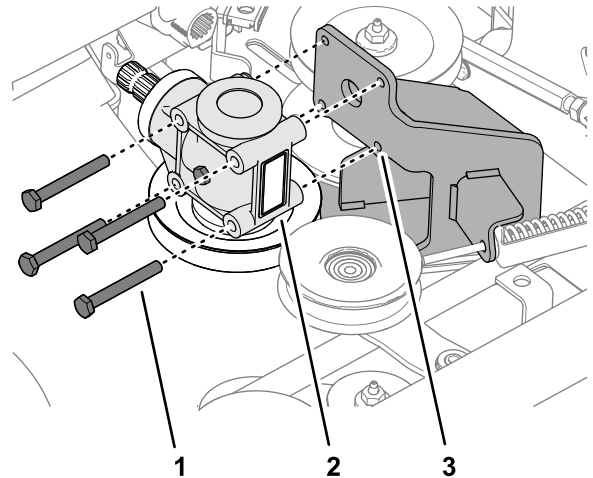

Figure 118
2. Remove the 4 bolts that secure the mower-deck gearbox to the gearbox support (Figure 118).
1. Align the holes in the mower-deck gearbox with the holes in the gearbox support; refer to Figure 118 in Removing the Gearbox \(page 77\).